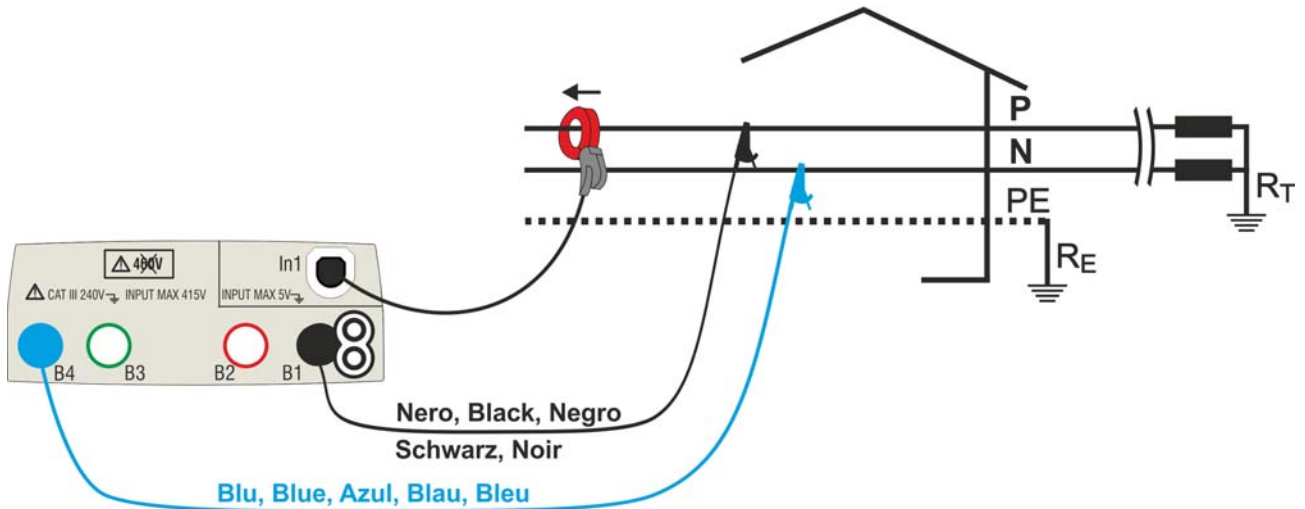

Fig. 34: Connection for measurement on Single phase installations
4. Insert the blue and black connectors into the corresponding B4 and B1 input terminals of the instrument. Insert the remaining free end of the cables in the corresponding crocodiles or tips. Connect crocodiles or test leads to the phase P and N according to Fig. 34 for the measurement of the voltage in Single phase plant or at L1 and L2 phase according to Fig. 35 for the measurement of voltage in a Three phase balanced plant. Connect the clamp to **In1** input of the instrument and to the phase conductor for Single phase or to the L3 phase for Three phase balanced systems. The arrow on the clamp must follow the direction in which the current normally flows from the generator to the load, as shown in Fig. 34 and Fig. 35